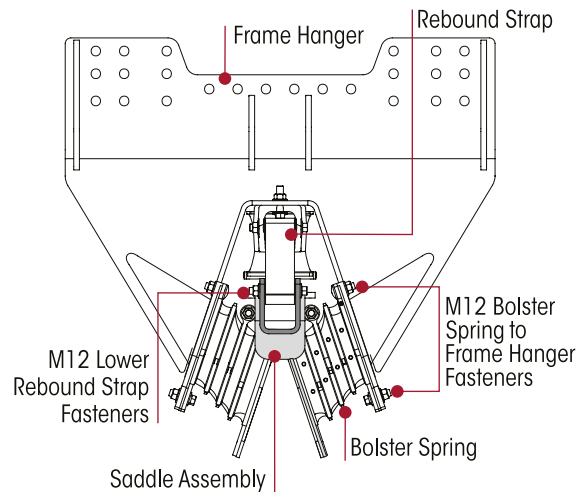

Figure 28: Hanger to Tie Bar Bolster Springs
7. Install upper tie-bar bolster springs fasteners to the frame hanger. Tighten fasteners to **125 Nm** torque, refer Figure 28.
8. Install the M12 lower rebound strap fasteners and spacer into the saddle assembly, refer Figure 28.